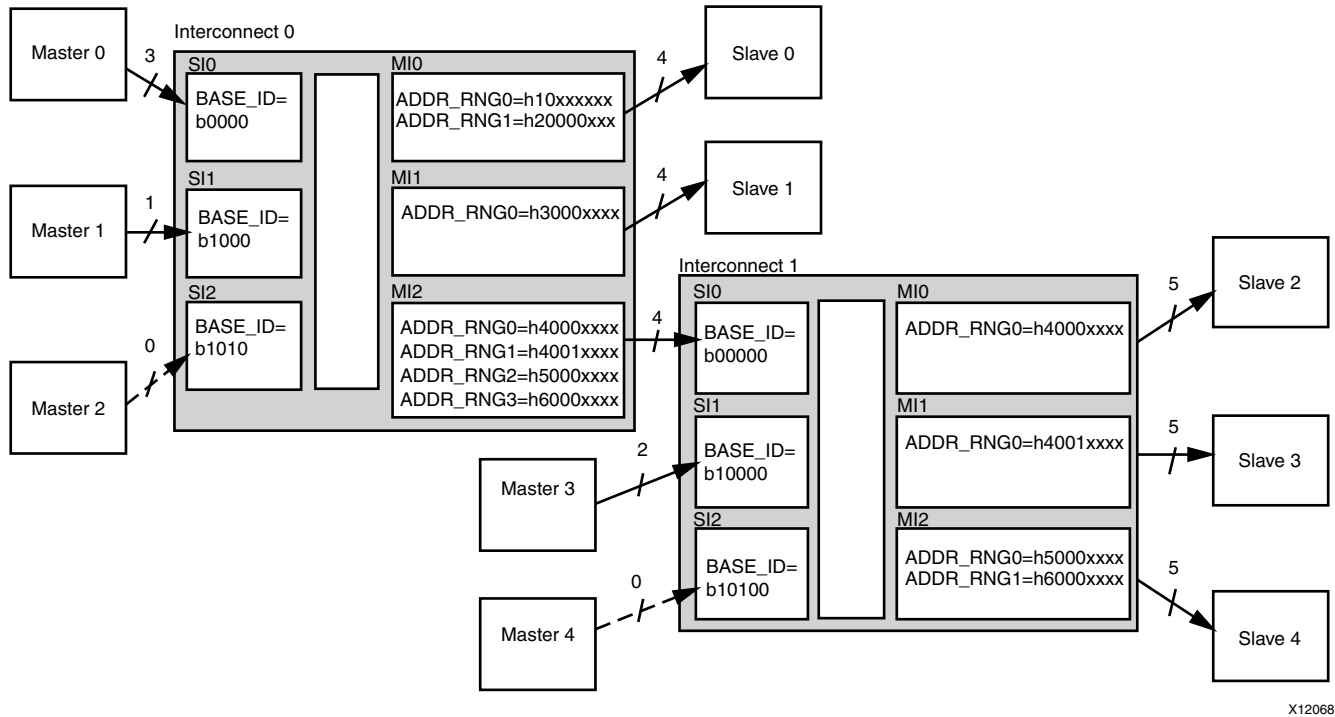

Figure 3-2: Cascading AXI Interconnect Cores
Figure 3-2 shows an example of cascading two AXI Interconnect instances.
Figure 3-2 shows the following:
- In Figure 3-2, for conciseness, BASE_ADDR/ADDR_WIDTH parameter pairs are represented as ADDR ranges with don't cares.
The 4-bit value produced on each `REGION` signal corresponds to address range index (aa) of the parameters `Mmm_Aaa_BASE_ADDR` and `Mmm_Aaa_ADDR_WIDTH` used to define the address range that matches the transaction address. See Figure 3-2 for an example of how multiple address ranges can be assigned to various MI slots.